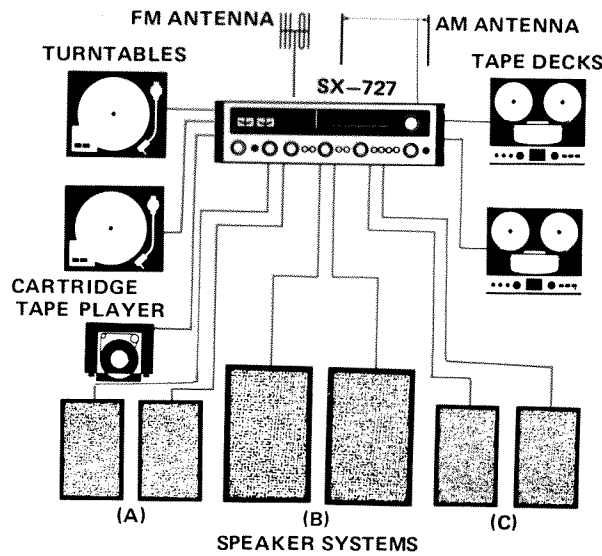

Fig. 2
- Model SX-727 is a Stereo Receiver, i.e. it combines an AM/FM stereo tuner, a preamplifier and a power amplifier in one unit. To obtain a complete stereo system, it can be combined with 2, 4 or even 6 speakers, 1 or 2 turntables, 1 or 2 tape decks, etc. See Fig. 2.